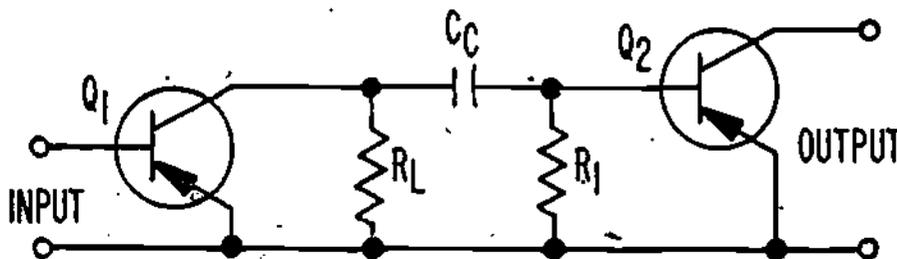
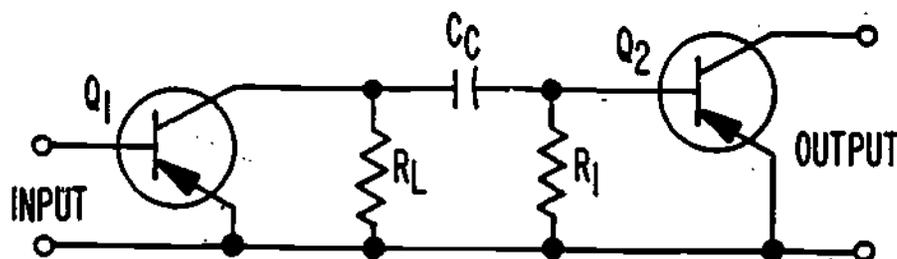
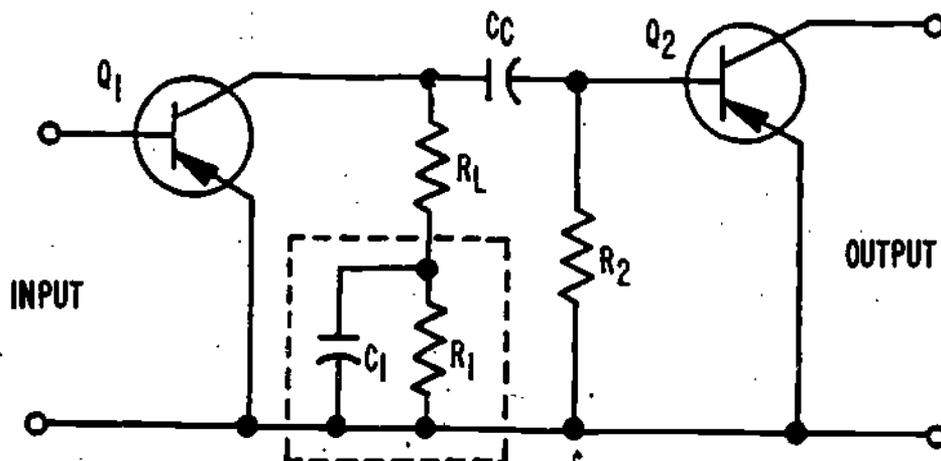

Figure 3
Figure 4
Figure 5
3. How can the bandwidth of RC coupled amplifiers be made wide enough to cover the low and high frequencies needed in video amplifiers? To answer this question, you must learn what limits the frequency response of RC coupling. First, let's discuss what limits amplification at low frequencies. Look at Figure 3 which shows a simplified diagram of an RC coupled, two stage amplifier. The bias voltages and some components are omitted for clarity.
In Figure 3, when the input signal frequency is low, the reactance of  $C_c$  is (low/high) and the voltage fed to the base of  $Q_2$  is (low/high).
4. Now that you know why the RC coupled amplifier doesn't amplify low frequency signals, what can be done about it? Refer to Figure 4 which is the same as Figure 3.
To partially compensate for poor low frequency response in Figure 4, a (larger/smaller) value coupling capacitor can be used.
- b. Since the coupling capacitor's increased capacitance only partially makes up for low frequency losses, more compensation is needed. Figure 5 shows the same diagram as in Figure 4 with the addition of low frequency compensation components.